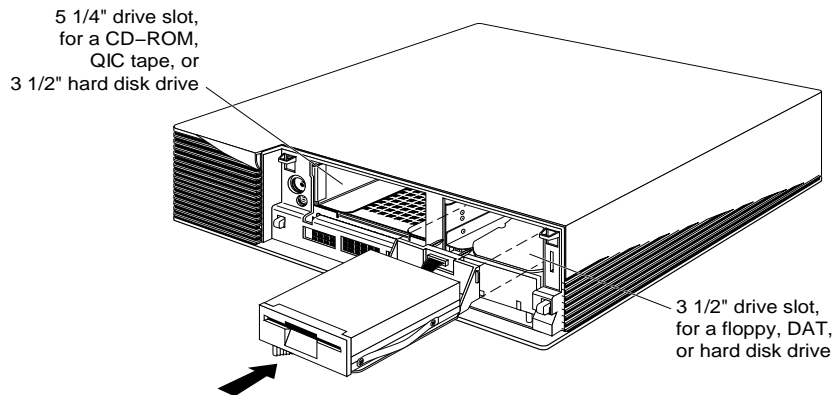

Figure 5-3 Installing an Internal Drive
2. Install the drive, as shown in Figure 5-3.